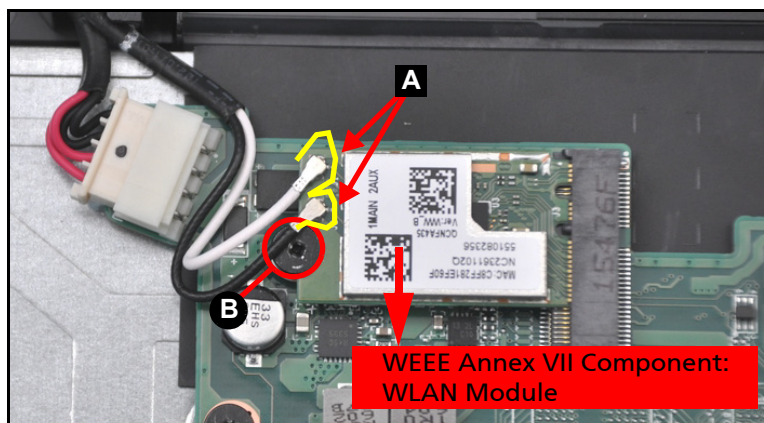

Figure 3-26. WLAN Module Removal
2. Disconnect WLAN antennas (A) connected to the WLAN card (Figure 3-26).
3. Remove one (1) screw (B) securing the WLAN module in place (Figure 3-26).